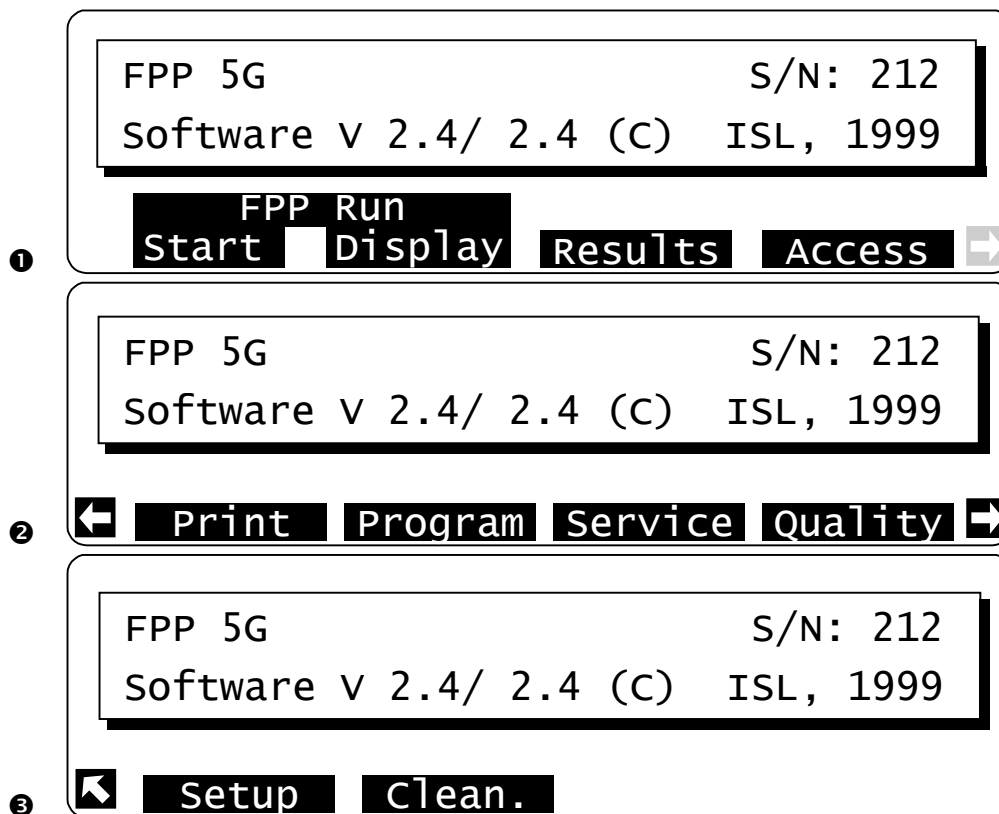

Figure 23: The three displays of the main level with access level 1 or more.
2. From the **Print** menu (see Figure 23 on page 2-38). When the **Results** menu is activated, the following display appears :